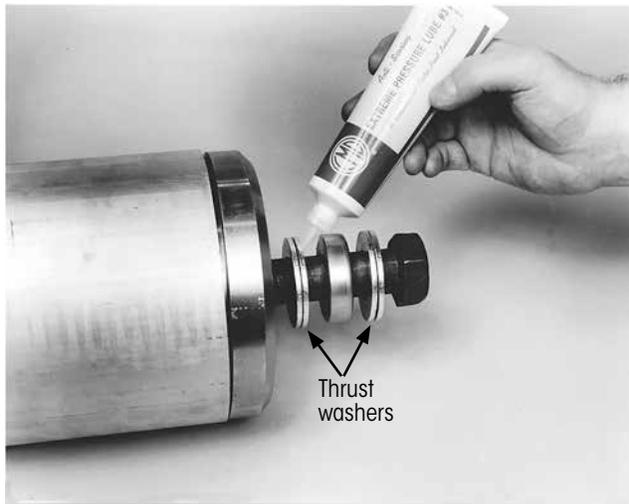

Figure 36: Apply lube to thrust washers
NOTE: There must be two lubricated thrust washers on each side of the thrust bearing as shown in Figure 36.
8. Apply extreme-pressure lube to external surfaces of the thrust washers (Figure 36).